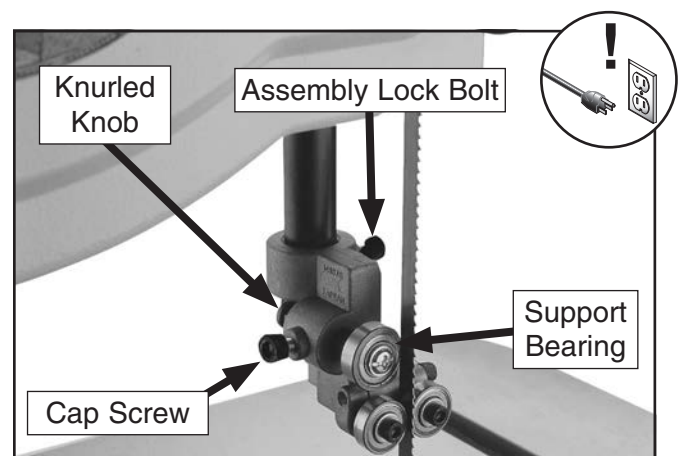

Figure 28. Upper support bearing assembly and controls.
2. Familiarize yourself with the support bearing controls shown in **Figure 28**.
5. Tighten the assembly lock bolt (see **Figure 28**).
6. Loosen the cap screw (see **Figure 28**) on the support bearing adjustment shaft.